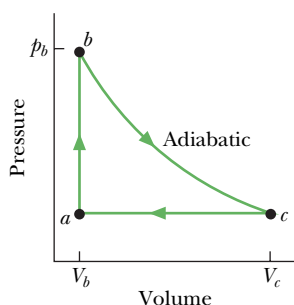

Fig. 20-29 Problem 33.
**••33 SSM ILW** Figure 20-29 shows a reversible cycle through which 1.00 mol of a monatomic ideal gas is taken. Volume  $V_c = 8.00V_b$ . Process  $bc$  is an adiabatic expansion, with  $p_b = 10.0$  atm and  $V_b = 1.00 \times 10^{-3}$  m3. For the cycle, find (a) the energy added to the gas as heat, (b) the energy leaving the gas as heat, (c) the net work done by the gas, and (d) the efficiency of the cycle.